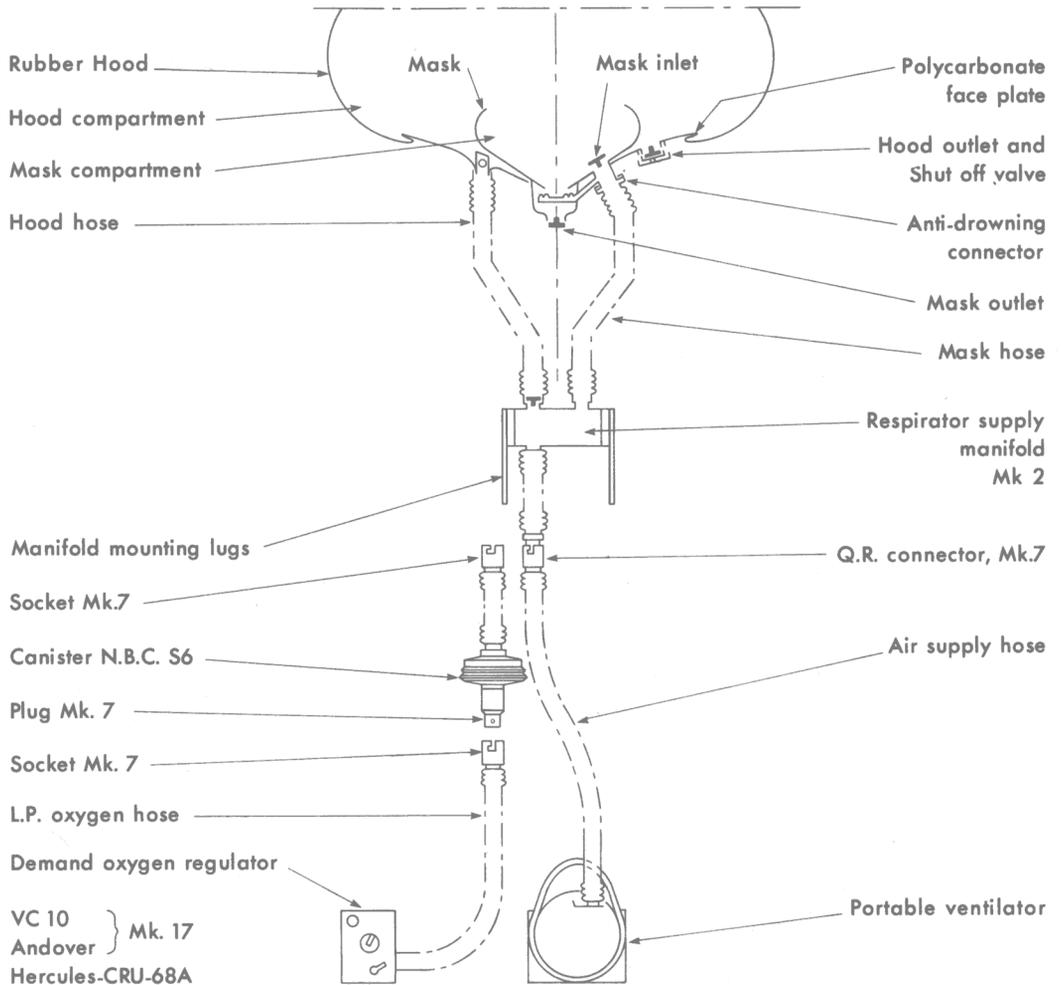

Fig 10. Schematic Diagram Showing Supplies to the AR5 Mk 2 (Oxygen Supply shown bottom left for Transport Aircraft equipped with oxygen)
a. *Manifold and Hose Assembly Mk 2/2A.* This form of the manifold carries filtered air from the air inlet hose to the mask and hood hoses. The air passages of this manifold are similar to those of the Mk 1/1A manifold. The oxygen block is omitted from the Mk 2 manifold, as it is used in applications where only air is required for breathing or where filtered oxygen from a pressure demand oxygen regulator is used to supply the respirator (Fig 10). The Mk 2 manifold is fitted with a pair of vertical prongs as used in the Mk 1A manifold for attachment to the flying clothing. The Mk 2A manifold itself is similar to the Mk 2 version. It is however fitted with a blade similar to that of the Mk 1 manifold by which it can be attached to the closure plate of a torso harness lifepreserver.
Mk 2, as used in transport aircraft is given in Fig 10. In aircraft with only one pilot, two Portable Ventilators are connected to the inlet hose of the pilots AR5. This arrangement provides an immediately available alternative source of blown filtered air in the event of failure of the Portable Ventilator in use. A spare Portable Ventilator is also carried in all aircraft carrying 3 or more crew. A carrying harness has been developed for the Portable Ventilator which allows the wearer to strap the unit close to his body
the same way until cabin decompression or toxic fumes require that oxygen be used. Then the AR5 is supplied with oxygen from the aircraft pressure demand regulator. A single canister NBC S6 and holder is routinely connected to the delivery hose from each panel mounted regulator (Figure 10). In the event of the need to use oxygen the aircrew member will disconnect the hose from the Portable Ventilator and connect that from the oxygen regulator and NBC canister (holding his breath whilst he makes the change). He will select 100% oxygen and EMERGENCY pressure on the pressure demand regulator which will ensure that safety pressure is maintained in the mask and hood compartments of the AR5 and that the latter is adequately ventilated.
25. Multiseat (5 crew) Bomber and Tanker Aircraft. The medium pressure oxygen and fixed ventilator supply systems will be fitted at the pilots' positions in these aircraft and the pilots will wear the AR5 connected to the Mk 1A manifold and Hose assembly in the same way as aircrew in fast jet aircraft, as outlined in para 22. In order to avoid large airframe modifications and the development of new connector systems compatible with rapid emergency escape in flight, the rearcrew will use the AR5 connected to the Mk 2 Manifold and Hose Assembly. This will be supplied throughout flight with an oxygen-air mixture from the pressure demand oxygen regulator set to airmix ('normal' oxygen) and emergency pressure. This gas will pass through a pair of canisters NBC S6 arranged in parallel upstream of the manifold of the respirator. The canisters NBC S6 will be mounted in a sealed chamber inserted in the oxygen supply hose on the airframe. The system is similar to that used in oxygen breathing conditions in transport aircraft which is shown in Fig 10 and outlined in para 24.